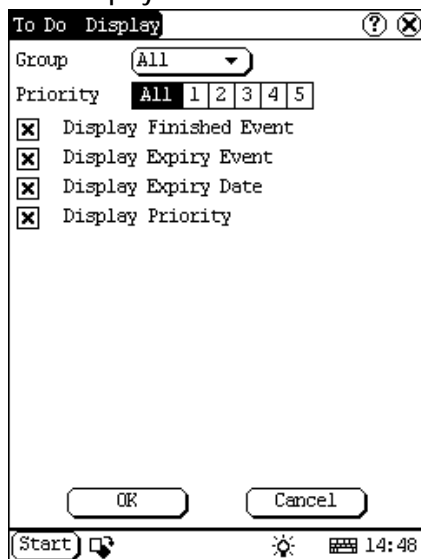

Figure 4-27
- 5) Click the box to the right of each function. When 'X' is displayed in the box, the function is selected. (See Figure 4-27)